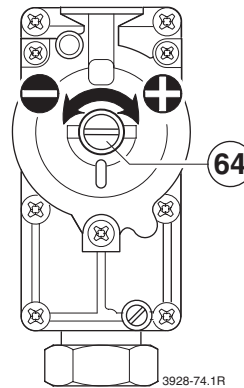

Fig. 42
- ▶ Remove the seal from the gas valve adjusting screw (64) and adjust the CO₂ level to the figure given in Table 16 for min. rated heat output. Refer to fig. 42.